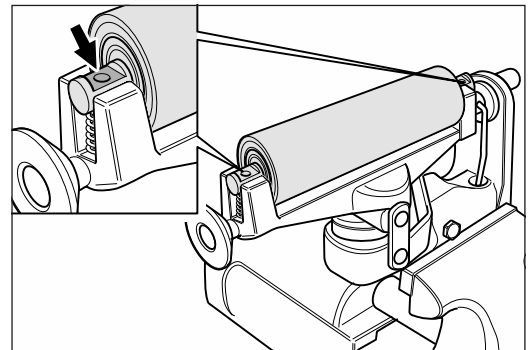

Fig. 58 Insert the new tensioning roller, ensuring that the surfaces on the shaft ends are pointing upwards. **Similar to figure.**
- 6 Insert the compression spring and the tensioning roller. Ensure that the surfaces on the shaft ends of the tensioning roller are pointing upwards (fig. 58)!